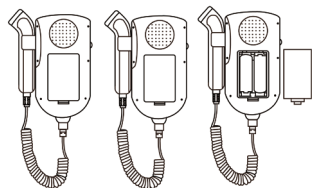

Fig.4-2 Replacing Battery
① The rear panel is upturned. First open the battery compartment, then take out the battery from the battery compartment (See Fig.4-2).
② Put two AA size batteries into the battery compartment (as for the direction of battery, please refer to the instruction inside the battery compartment), at last close the battery compartment.